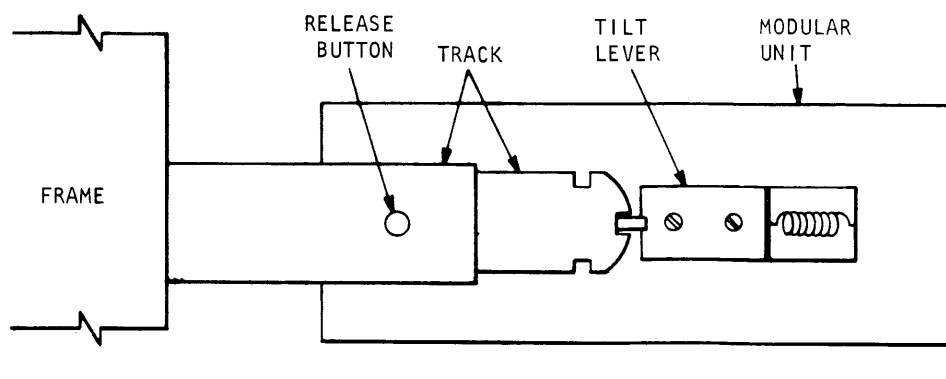

Figure 2-1. Slide Mounting Details
a) INSTALLATION OF MODULAR UNITS. - Refer to figure 1-1 for information regarding location of all modular units. All major units are slide-mounted on tilt-lock drawer slides. To install any slide-mounted unit in its compartment, refer to figure 2-1 and proceed as follows:
(1) Untape or unstrap cable assemblies and all other components secured to the rack frame for shipment.